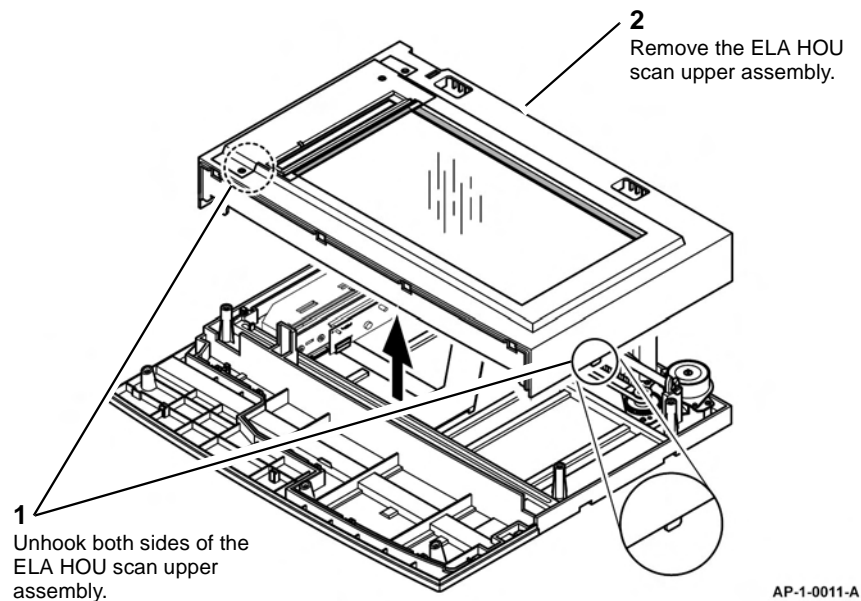

Figure 9 ELA HOU scan upper assembly removal
11. Remove the ELA HOU scan upper assembly, Figure 9.